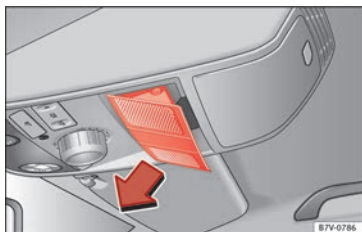

Fig. 15 On the interior roof lining: remove cover.
- Push open the cover in the direction indicated (arrow) » **Fig. 15**.